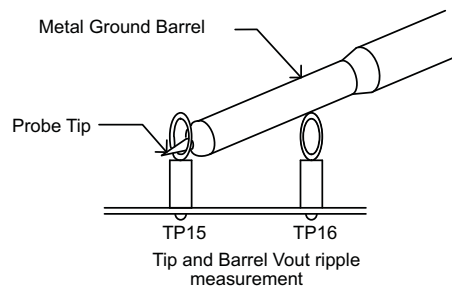

Figure 2. Output Ripple Measurement – Tip and Barrel Using TP9 and TP10
TPS40192EVM-001 provides two test points for measuring the voltage generated by the module. This allows the user to measure the actual module output voltage without losses from output cables and connector losses. All output voltage measurements should be made between TP15 and TP16. To use TP1 and TP2, connect a voltmeter positive terminal to TP15 and negative terminal to TP16. For output ripple measurements, TP15 and TP16 allow a user to limit the ground loop area by using the tip and barrel measurement technique shown in Figure 2. All output ripple measurements should be made using this technique.
A digital or analog oscilloscope can be used to measure the ripple voltage on V_{OUT} . The oscilloscope should be set for 1-M Ω impedance, 20-MHz bandwidth, AC coupling, 1- μ s/division horizontal resolution, 10-mV/division vertical resolution for taking output ripple measurements. TP15 and TP16 can be used to measure the output ripple voltage by placing the oscilloscope probe tip through TP15 and holding the ground barrel to TP16 as shown in Figure 2. For a hands-free approach, the loop in TP16 can be cut and opened to cradle the probe barrel. Using a leaded ground connection may induce additional noise due to the large ground loop area.
4. Connect oscilloscope probe to TP15 and TP16 as shown in Figure 2.